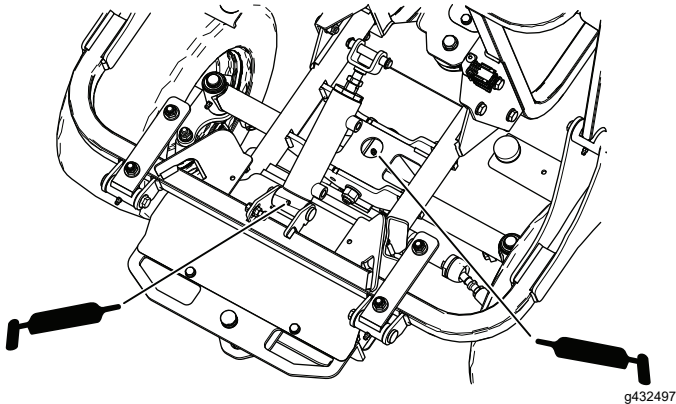

Figure 45
- Hopper cylinder pivot and rear-axle pivot (Figure 45)